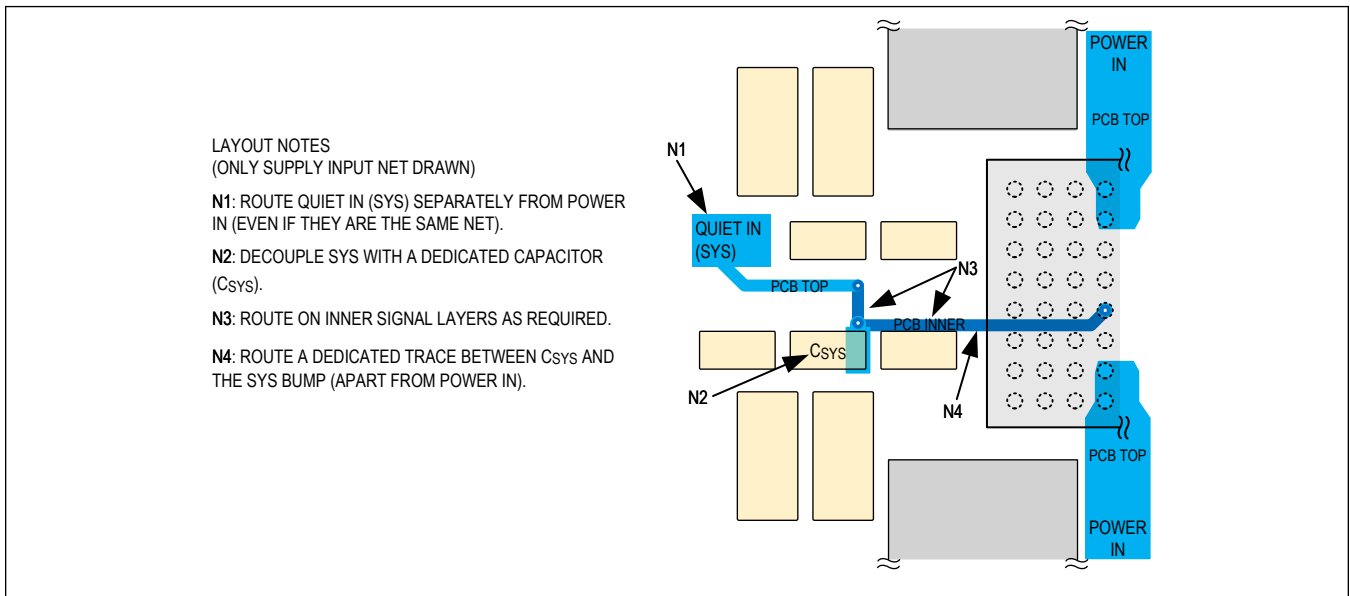

Figure 16. Recommended SYS Connection
10. The IC requires a quiet supply input (SYS) which is often the same net as INx. Carefully bypass SYS to AGND with a dedicated capacitor ( $C_{SYS}$ ). Route a dedicated trace between  $C_{SYS}$  and the SYS bump. Avoid connecting SYS directly to the nearest IN bumps without dedicated bypassing. See Figure 16 for an illustration.